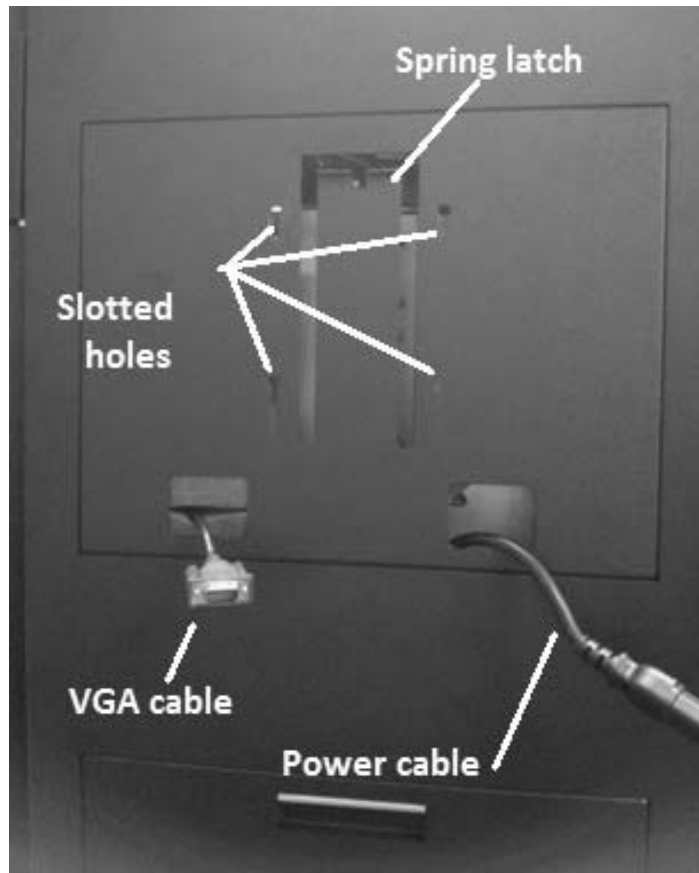

Figure 14. IMC side panel
1. Refer to Figure 14 on page 30 to become familiar with the locations of the cables and mounting mechanism of the IMC side panel.